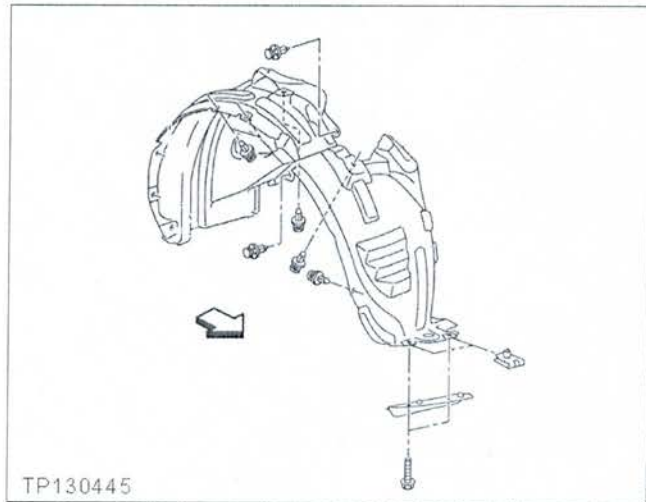

Figure 1
- Remove the 2 bolts and 7 clips shown in Figure 1.